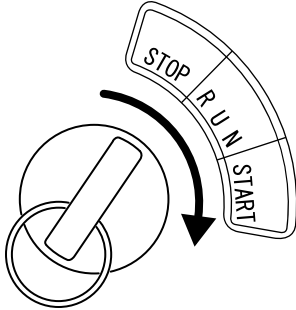

Figure 17. Starter Grip
1. Turn the key switch to the "START" position to start the engine. (Figure 17).